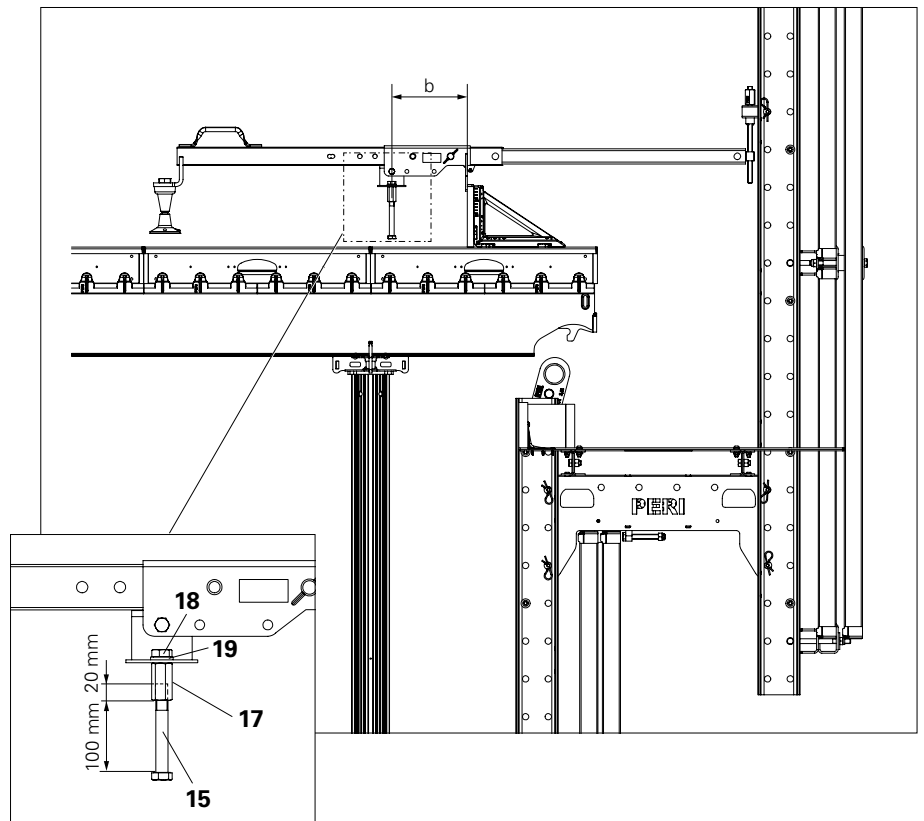

Fig. D1.03
1. Attach two long Nuts M16x50 (17) 20 mm to Bolts, e.g. M16x120 (15).
2. Secure with other Bolts M16x30 (18) and Washers (19) in the bracket for the Anchor Bolt (16.6).
- (Fig. D1.03)